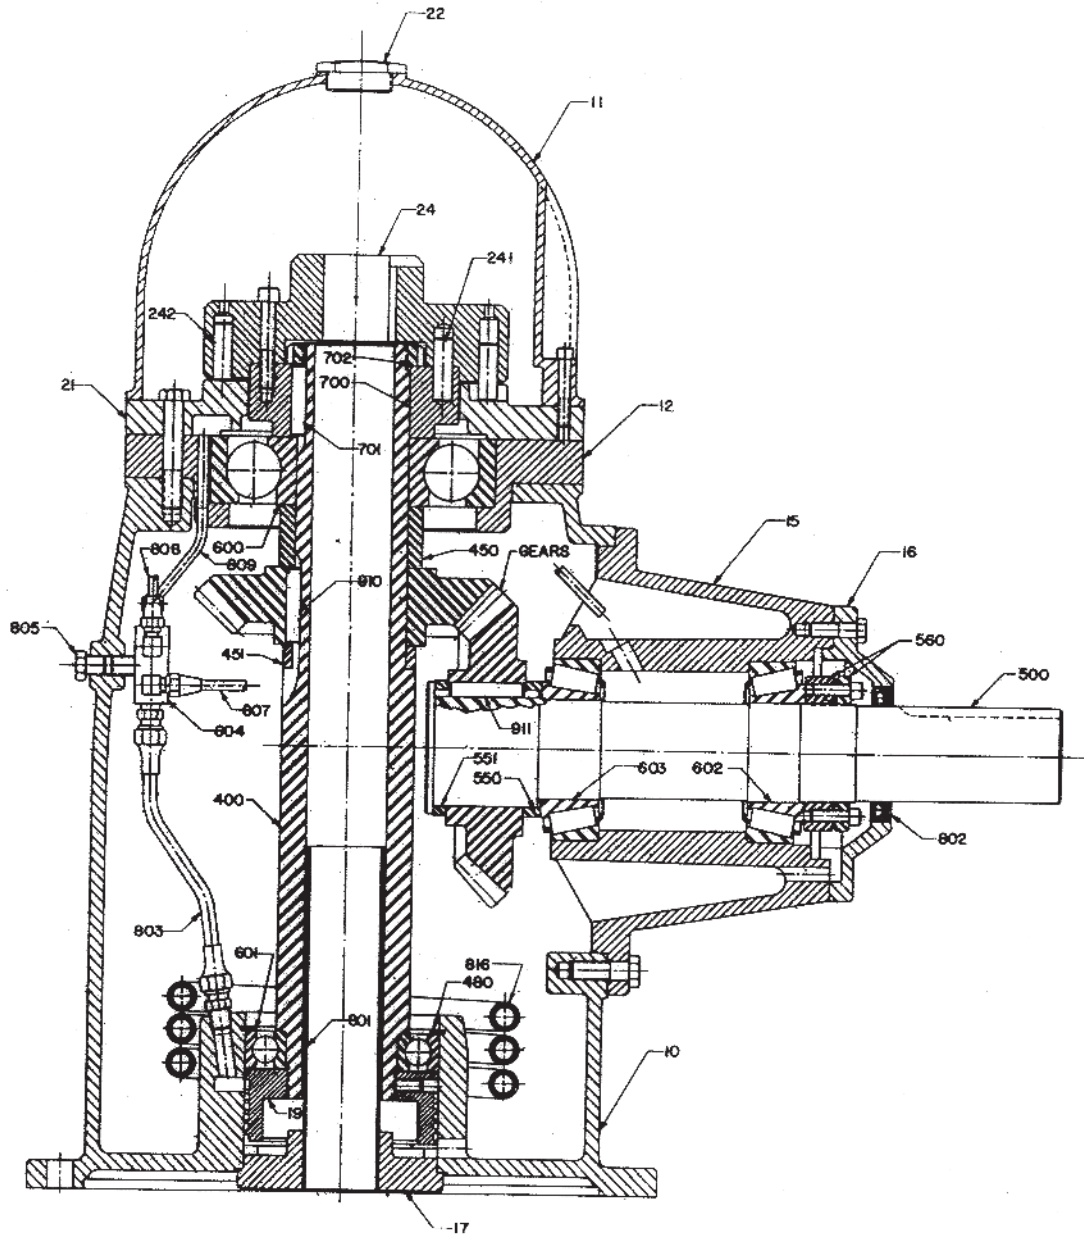

Figure 3
- 2.2 On models with pressed on drive sleeves (700) (see Figure 3, 4, or 5), remove the drive sleeve locknut (702), if present, using a drift punch or spanner wrench. The drive sleeve locknut has right hand threads.